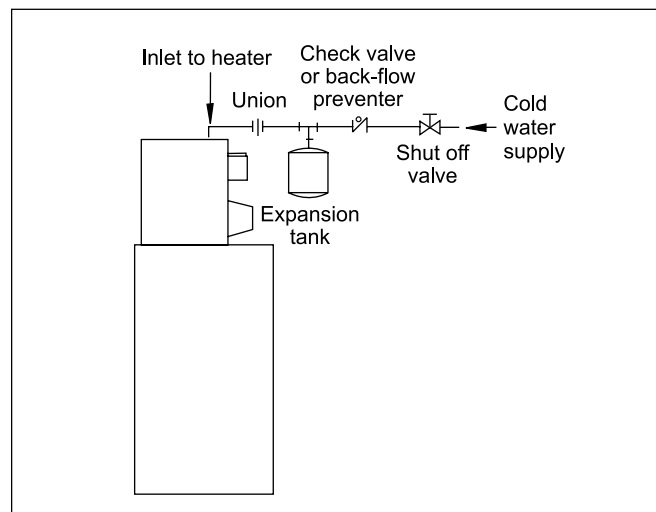

Figure 11. Expansion Tank Installation.
2. If a backflow preventer, pressure reducing valve, or check valve is included in the cold water supply line, you must provide a way to control thermal expansion of the water in the tank. This will prevent the temperature and pressure relief valve from being forced open repeatedly. For advice on controlling this situation, contact the water supplier or local plumbing inspector. Install an expansion tank of the proper size, as shown in Figure 11.